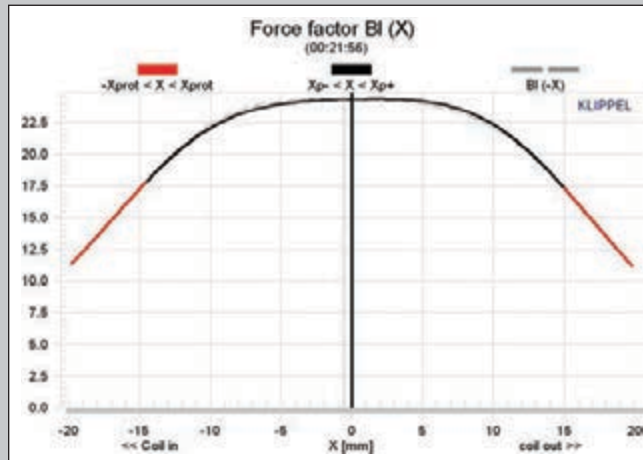
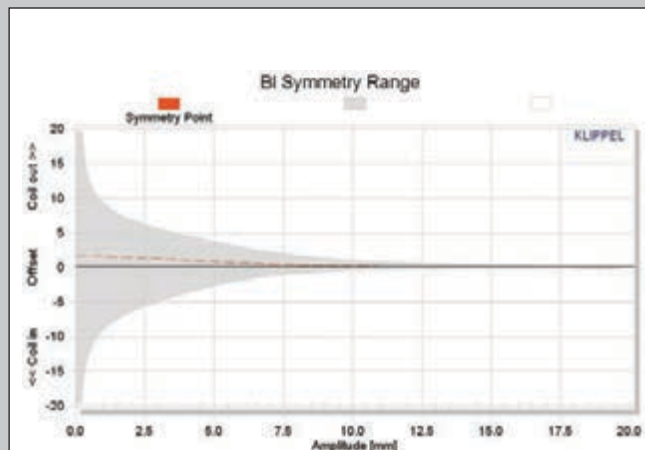
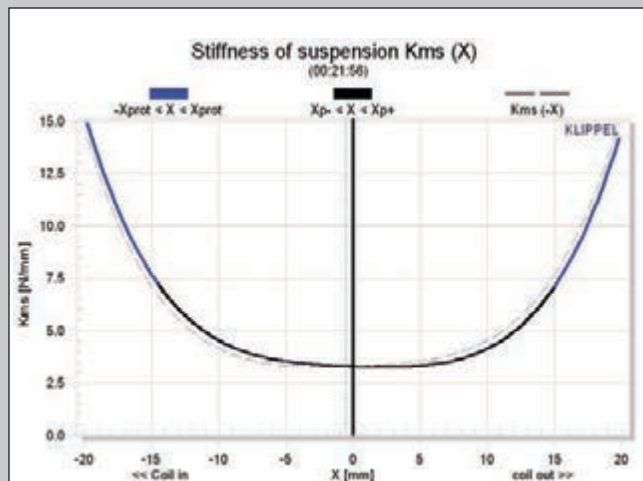

Figure 6: Klippel Analyzer BI (X) curve for the BMS 15N850V²
Figure 7: Klippel Analyzer BI symmetry range curve for the BMS 15N850V²
Figure 8: Klippel Analyzer mechanical stiffness of suspension Kms (X) curve for the BMS 15N850V²
Klippel analysis for BMS 15N850V2 (my analyzer is provided courtesy of Klippel GmbH)—which as usual was performed by Patrick Turnmire, Red Rock Acoustics (author of the SpeaD and RevSpeaD transducer simulation software)—produced the Bl(X), Kms(X) and Bl and Kms Symmetry Range plots given in **Figures 6** to **9**. Like many of the pro sound companies that contribute samples to *Voice Coil* for this column, BMS has its own Klippel analyzer.
The Bl(X) curve for the 15N850V2 (see **Figure 6**) is nicely broad and symmetrical typical of a high X_{max} driver (12 mm is substantial for a pro sound 15" woofer) with a very small amount of coil out (forward) offset. Looking at the Bl symmetry plot (see **Figure 7**), this curve shows negligible 0.79 mm of forward (coil-out) offset in the 5-mm position (a more reliable number than at rest in this case) decreasing to about 0.1 mm, at the driver's physical X_{max} of 12 mm, all of which is of no real consequence. **Figures 8** and **9** depict the Kms(X) and Kms symmetry range